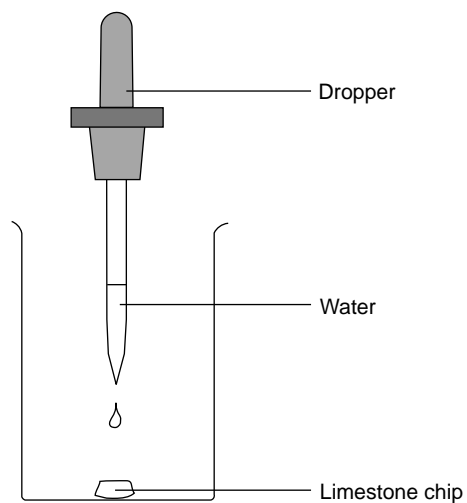

Fig 3
- Let the limestone chip cool (this may take a few minutes – be patient). Use tongs to place the chip in a small beaker and add water from a dropper one drop at a time *Figure 3*.